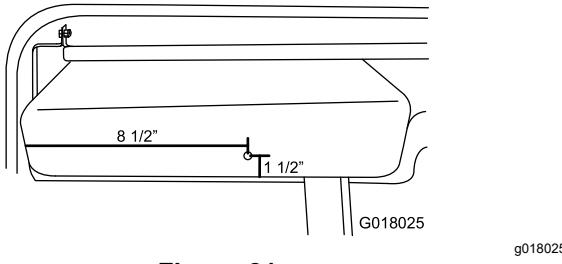

Figure 21
- Drill a hole (5/16 inch) in the glove box 216 mm or 8-1/2 inches from the left and 38 mm or 1-1/2 inches from the bottom (Figure 21).